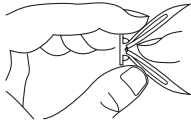

Figure 9 - Folding Anchor
2. Fold wall anchor as shown in Figure 9, page 10.